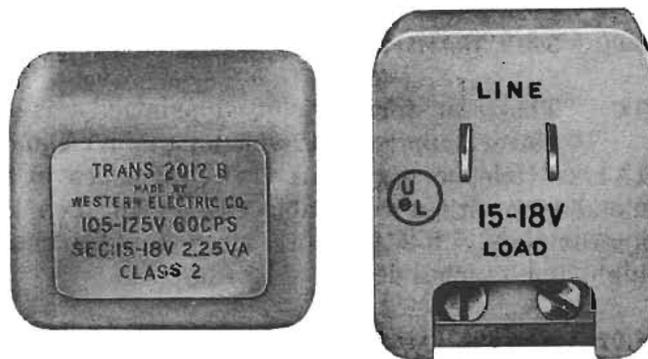

Fig. 3 – 2012B Transformer
6.01 The 2012B transformer (Fig. 3) is primarily intended to supply power to 55A control unit in 3A speakerphone system. The length of wire between the transformer and the control unit should not exceed 100 feet of standard inside wire.